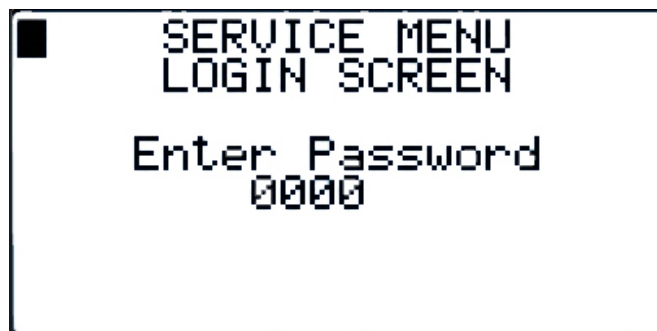

Figure 16
2.3.3 Service Menu (Figures 16 and 17)
Selecting the SERVICE MENU will display the Login Screen (Figure 16). Enter the service password, 1234, and press **ENTER**.